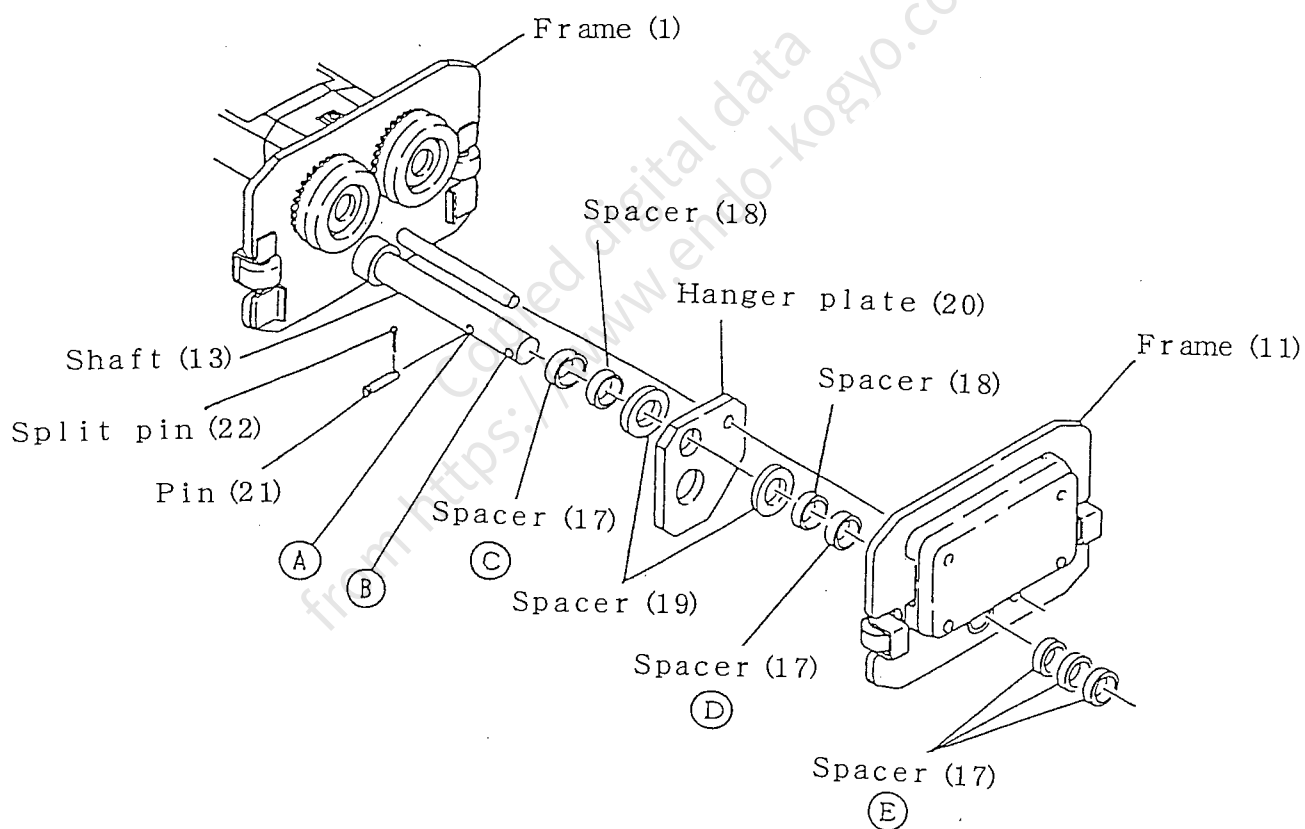

Fig. 3
Referring to Table 2 and Figure 3, adjust the trolley width using the following procedure.
- 1) Remove Split pin (22) which is temporarily fixed on Pin (21), and remove Pin (21).
- 2) Remove Frame (11), Spacers (17), Spacers (18), Spacers (19) and Hanger plate (20) from Shaft (13).
- 3) Attach Spacers (17) to Shaft (13) according to Table 2 and Figure 3, and attach Spacers (18), Spacers (19) and Hanger plate (20).
- 4) Attach Frame (11) on Shaft (13).
- 5) Insert Pin (21) into the hole ⑥ of Shaft (13), and fix with Split pin (22).
- (1) Remove the stopper from the rail end and install the trolley.
- (2) Install the stopper at the rail end and fix securely.
■ When installing the trolley on the middle of the rail (See Figures 3 and 4):
- 1) Remove Split pin(22) from Pin(21).
- 2) Remove Pin(21) from the hole ① and inset it into the hole ② of Shaft(13).